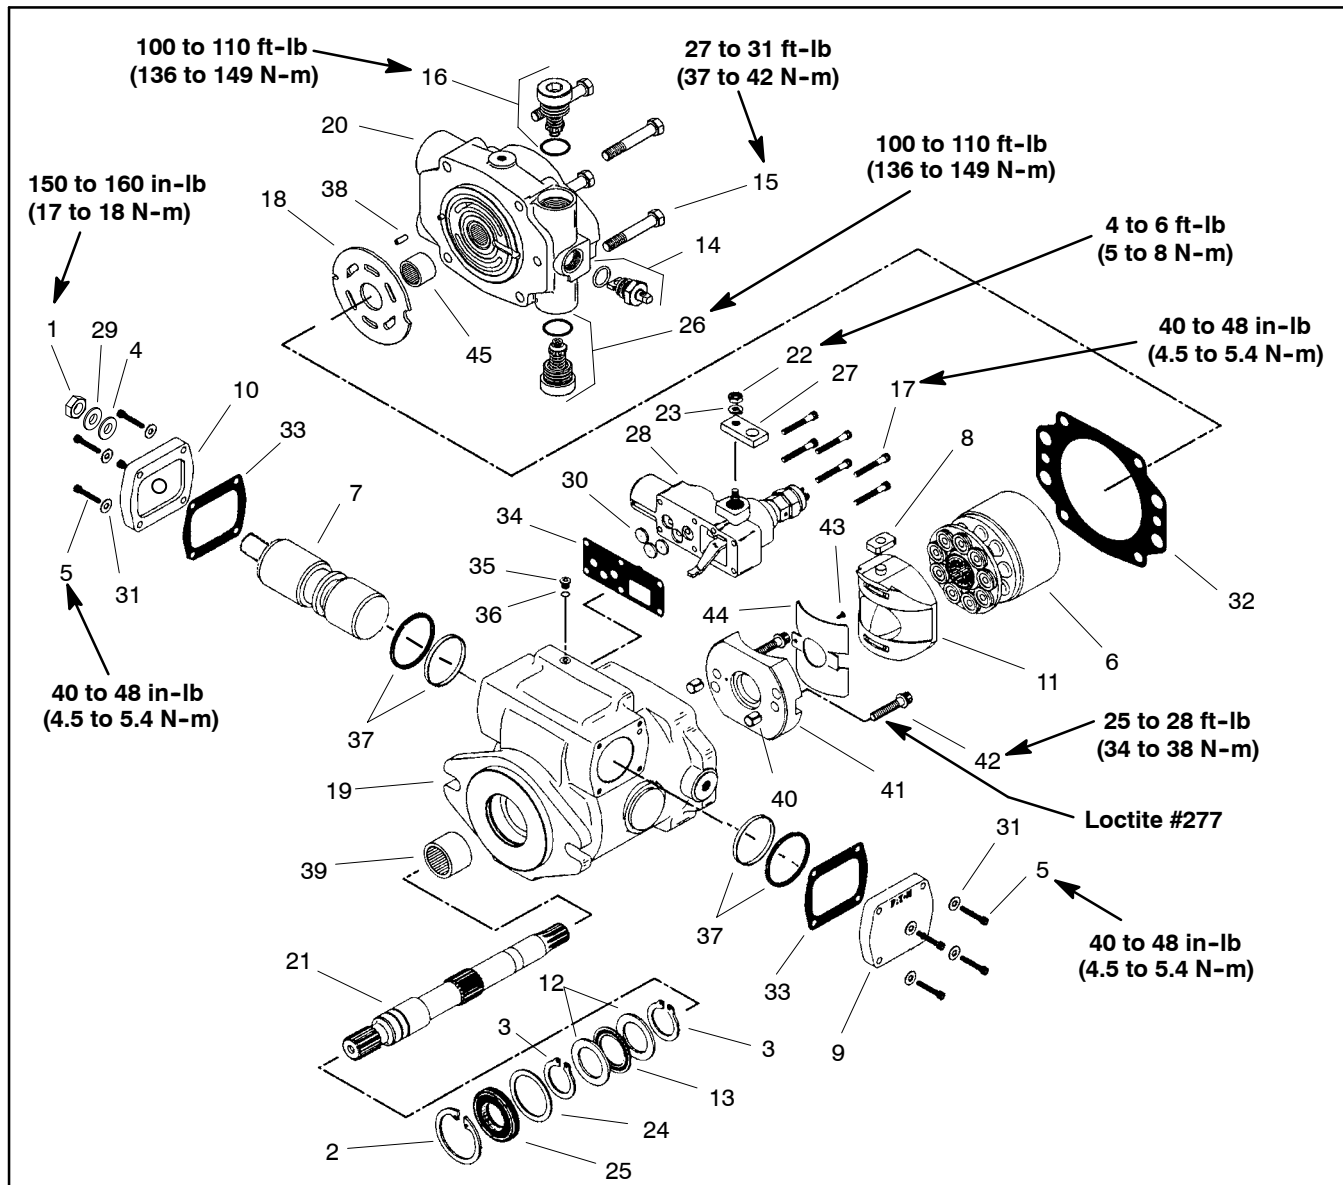

Figure 46
**Disassembly (Fig. 46)**
1. Position the pump into a protected jaw vise, clamping onto the outer portion of the flange, with the cap screws up. Mark the relationship of the working ports (for reassembly identification) to the servo control assembly with a scribe. Remove the four cap screws (15) retaining backplate (20).
2. Lift backplate (20) straight up off drive shaft (21) and housing (19). Remove valve plate (18) from backplate (20) or from rotating kit assembly (6), still in housing (19).
3. From backplate (20), remove bypass valve (14), forward relief valve (26), and reverse relief valve (16). Note: Mark the valves in relationship to the cavity it was removed, for reassembly purposes.
4. Remove housing gasket (32) from housing (19) or backplate (20).
5. With pump still in vise, remove the six socket head screws (17) retaining the servo control assembly (28). Remove the control assembly and control housing gasket (34) from the housing. Remove orifice plates (30), noting location for reassembly. Remove nut (22), lock washer (23), and control arm (27) from servo control input shaft. Note position of control arm for reassembly.
6. To remove rotating kit assembly (6) from housing, first remove pump from vise holding the rotating kit assembly in position. Lower pump so that the shaft end (flange end) is up. Set the rear of housing onto table with housing flat and rotating kit assembly at rest on table. (Hole in table, for protruding shaft, is required.) Lift and remove the housing (19) and drive shaft (21) from rotating kit assembly (6) and camplate assembly(11).
7. Remove camplate (11) from rotating kit assembly (6) and servo piston follower (8) from camplate (11).
8. Remove the four socket head screws (5) and washers (31) retaining each cover plate (9 & 10).
9. Remove jam nut (1), washer (29), and seal washer (4). Hold the servo piston bolt with hex key and unscrew cover plate (10) from bolt.
10. Remove servo piston assembly (7) and seal sub-assemblies (two sets) (37) from housing. Note: Disassembly of servo piston assembly is not required.
**Reassembly (Fig. 46)**